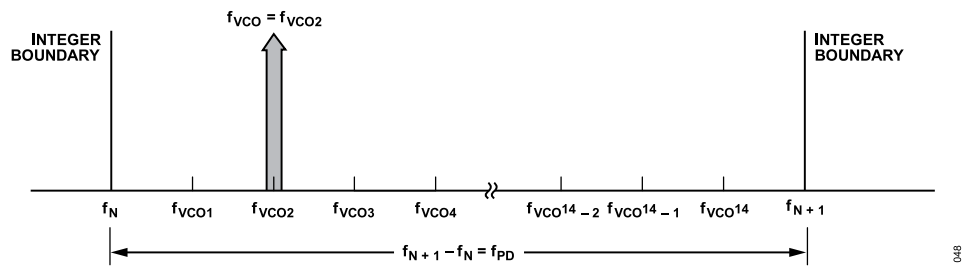

Figure 26. Exact Frequency Tuning
$f_{VCO}k$ is the channel step frequency, $0 < k < 2^{24} - 1$, as shown in Figure 26.
phase accumulator repeats at an exact period related to the interval frequency ($f_{VCOk} - f_{VCO(k-1)}$) in Figure 26. Consequently, the shortened accumulator results in more frequent repeating patterns and, as a result, often leads to spurious emissions at multiples of the repeating pattern period, or at harmonic frequencies of $f_{VCOk} - f_{VCO(k-1)}$. For example, in some applications, these intervals may represent the spacing between radio channels, with the spurious occurring at multiples of the channel spacing.
When multiple, equally spaced, exact frequency channels are needed that fall within the same interval (that is, $f_N \leq f_{VCOk} < f_{N+1}$) where f_{VCOk} is shown in Figure 26 and $1 \leq k \leq 2^{14}$, it is possible to maintain the same Integer N register (Register 0x03) and exact frequency register (Register 0x0C) settings and only update the fractional register (Register 0x04) setting. The exact frequency channel mode is possible when Equation 17 is satisfied for at least two equally spaced adjacent frequency channels, that is, the channel step size.
To configure the ADF5610 for exact frequency channel mode, initially and only at the beginning, the Integer N register (Register 0x03) and exact frequency register (Register 0x0C) must be programmed for the smallest f_{VCO} frequency (f_{VCO1} in Figure 26). Calculate and program the integer register setting by
where f_{VCO1} is shown in Figure 26 and corresponds to the minimum channel VCO frequency. Then, the lower integer boundary frequency is given by $f_N = N_{INT} \times f_{PD}$.
f_{VCO1} , as shown in Figure 26, represents the smallest channel VCO frequency that is greater than f_N .
4. To change from Channel 1 ($f_{VCO1} = 2800.2$ MHz) to Channel 2 ($f_{VCO2} = 2800.3$ MHz), only Register 0x04 must be programmed, as long as all of the desired exact frequencies (f_{VCOk} , see Figure 26) fall between the same Integer N boundaries ($f_N < f_{VCOk} < f_{N+1}$). In that case,